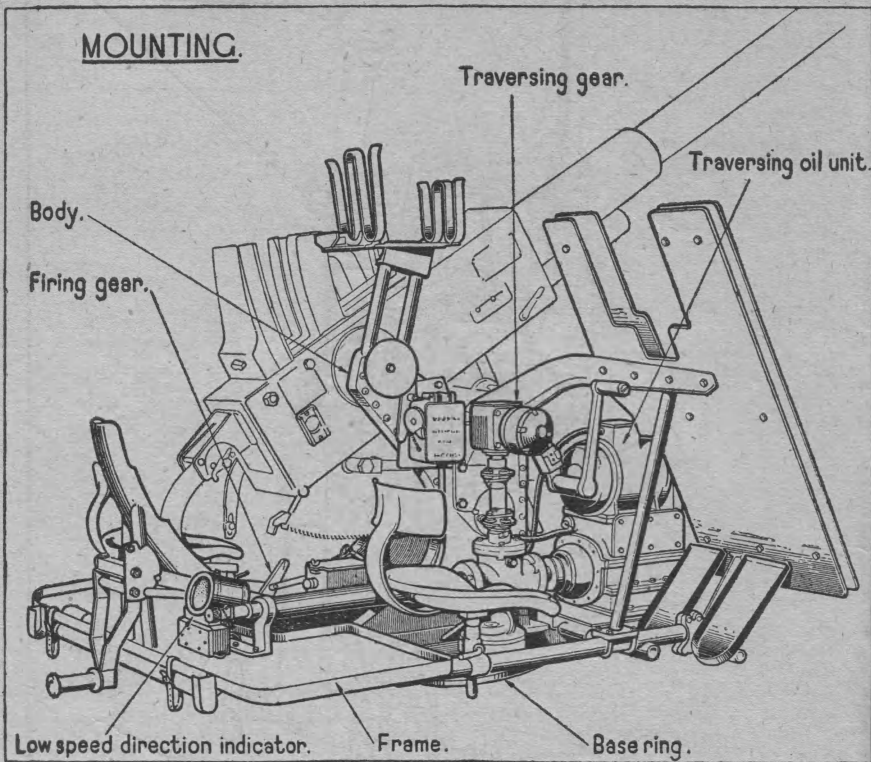
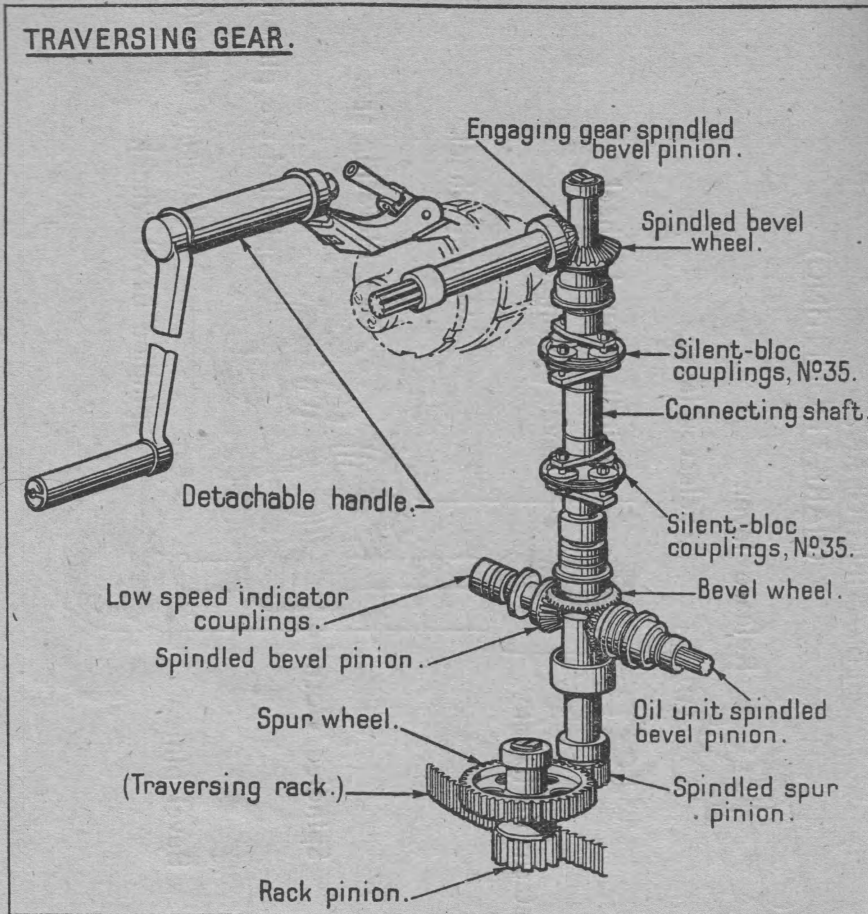

FIG. 18.
FIG. 25.
33. The principal parts of the Mark 3 mounting (Fig. 18) are :—
46. The **traversing gear** (Fig. 25) is situated on the right side of the mounting. It can be operated either by power or by hand through the medium of a cranked handle. The traversing oil unit (motor) (Fig. 18) is fitted on the right side of the platform frame.
47. The **low speed direction indicator** (Fig. 18) is secured to the upper side of the platform near the rear edge on the right side. It indicates the direction the mounting should be traversed to enable the bearings of the gun and predictor to be brought into coincidence.